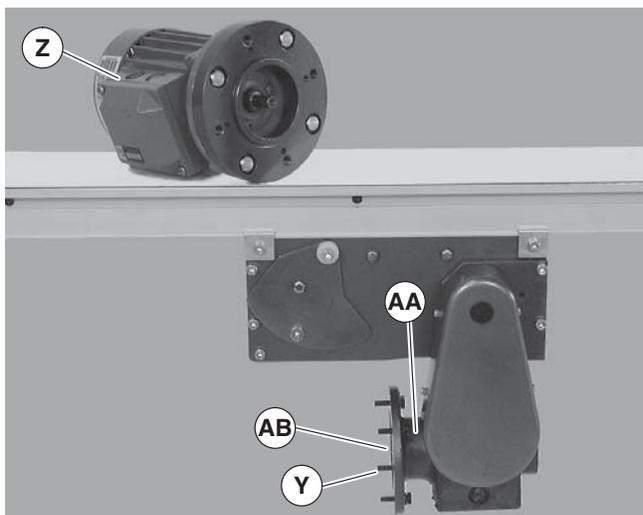

Figure 21
4. Remove four screws (Figure 21, item Y). Detach motor (Z) from gear reducer (AA). Retain motor output shaft key (AB).